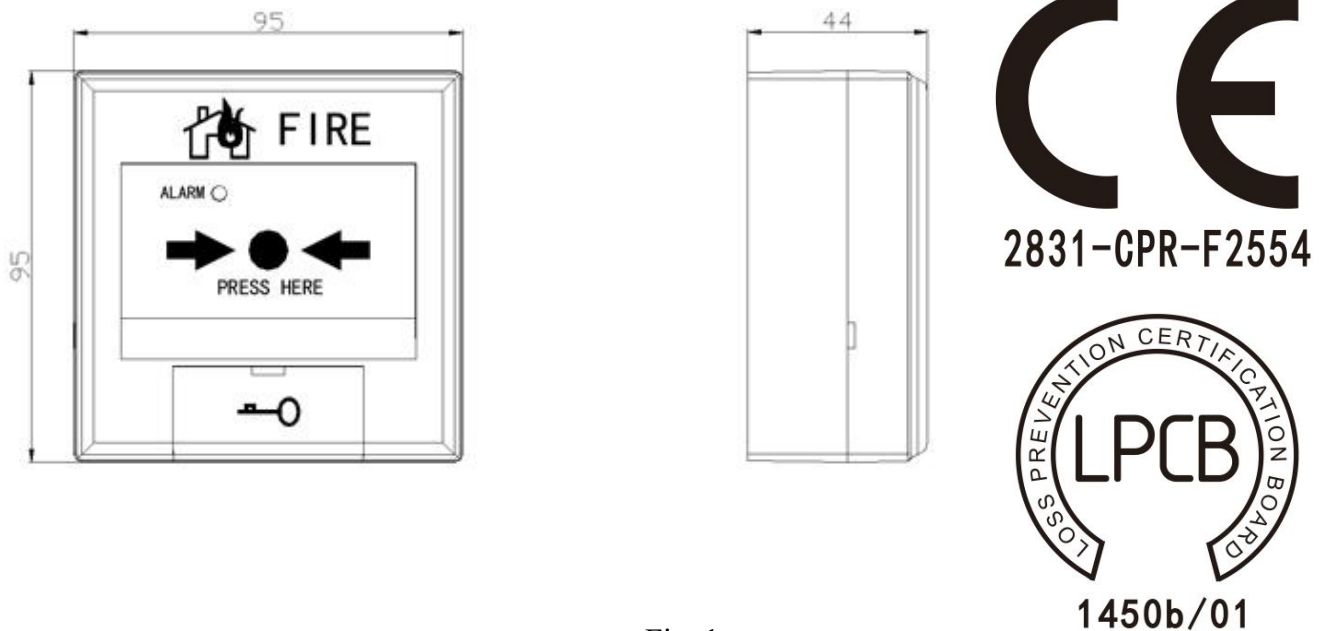

Fig. 1
1. Appearance of the MCP is shown in Fig. 1.